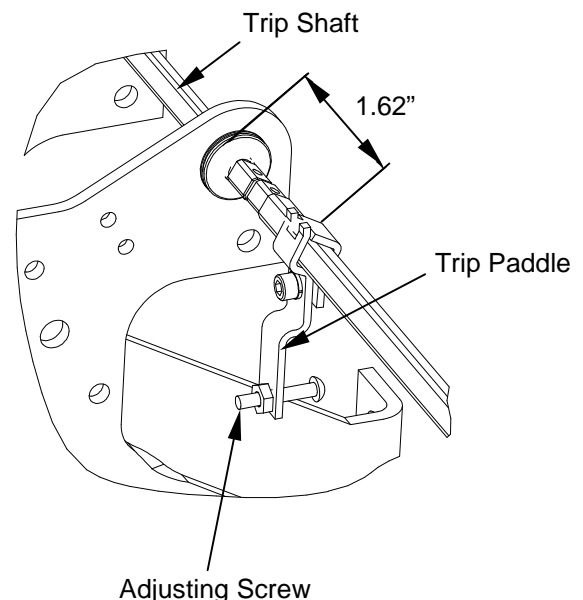

Figure 3. Mounting the trip paddle assembly on the trip shaft
3. Assemble the trip paddle over the circuit breaker trip shaft as shown in Figure 3. Secure the trip paddle to the trip shaft using the # 10-32 screw and spring washer provided. Install the # 8-32 adjusting screw and nut as shown in Figure 3.